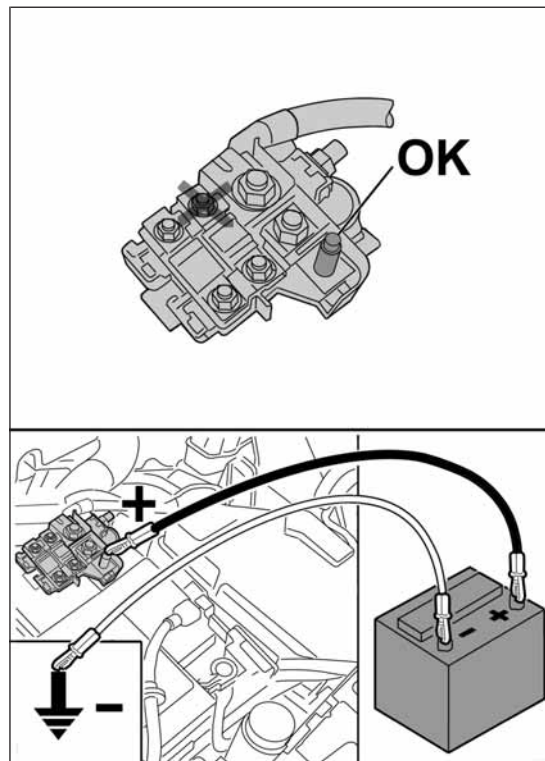

fig. 120
- connect the positive terminal (+) fig. 120 of the auxiliary battery only to the point indicated on the car battery (writing OK) and nowhere else;